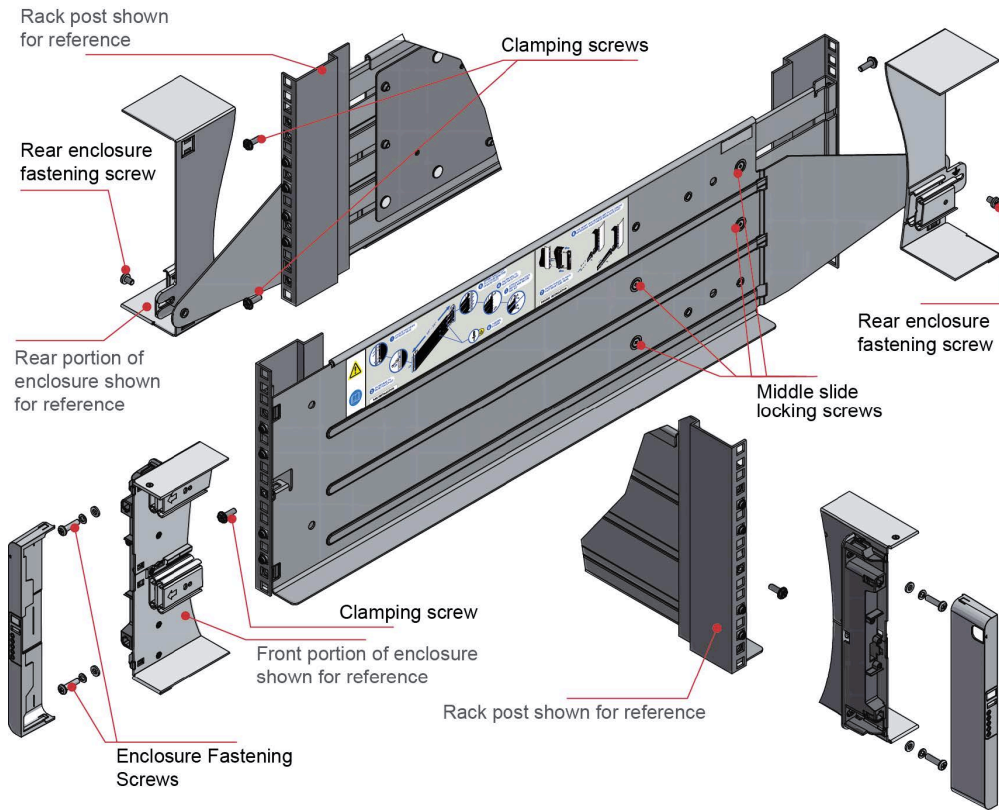

Figure 2. Mounting the system into a rack (left rail only)
2. Locate the rail location pins inside the front of the rack and extend the length of the rail assembly to enable the rear location pins to locate. Ensure the pins are fully located in the square or round holes in the rack posts (see Figure 2).
5. Fasten the front of the enclosure using the enclosure fastening screws and washers (x4) as shown in Figure 2.